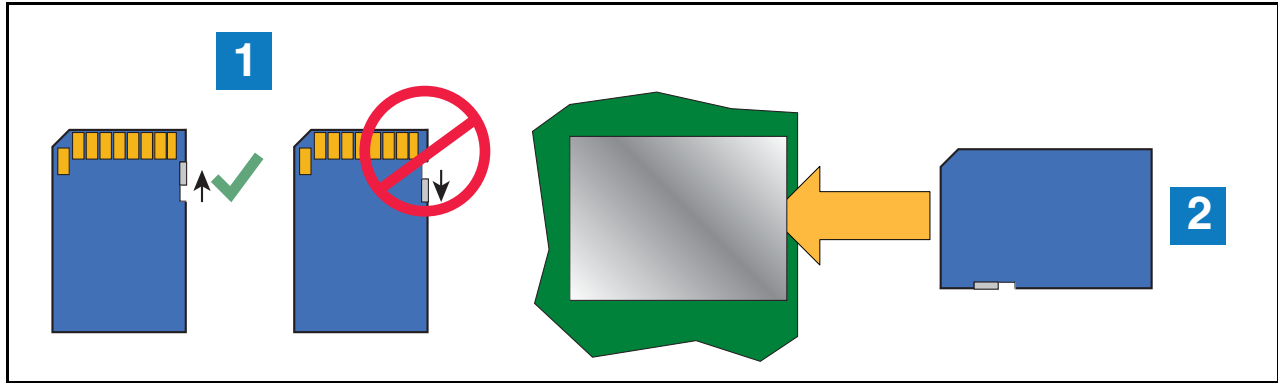

Figure 25. Installing SD Card
5. Press the outer edge of the SD card towards the interior of its enclosure and it should spring out so it can be removed. Remove the SD card and check that the read/write-protect switch on the side of the card is in the position shown in (item 1 Figure 25). Insert the SD card into its enclosure with the contact side facing the CPU board (item 2) and gently push the card into its enclosure until it clicks into the enclosure's latch.